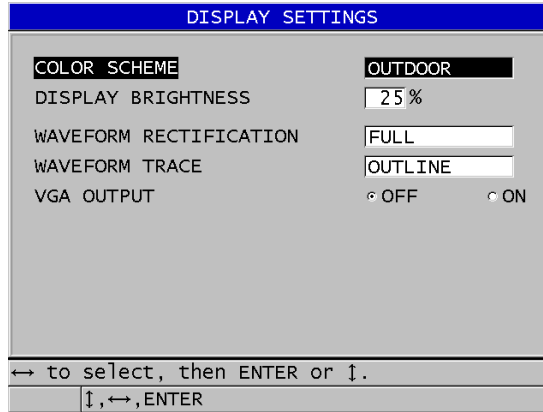

Figure 4-3 The **DISPLAY SETTINGS** screen
2. In the **DISPLAY SETTINGS** screen (see Figure 4-3 on page 58), select the desired parameter and value for the following parameters: